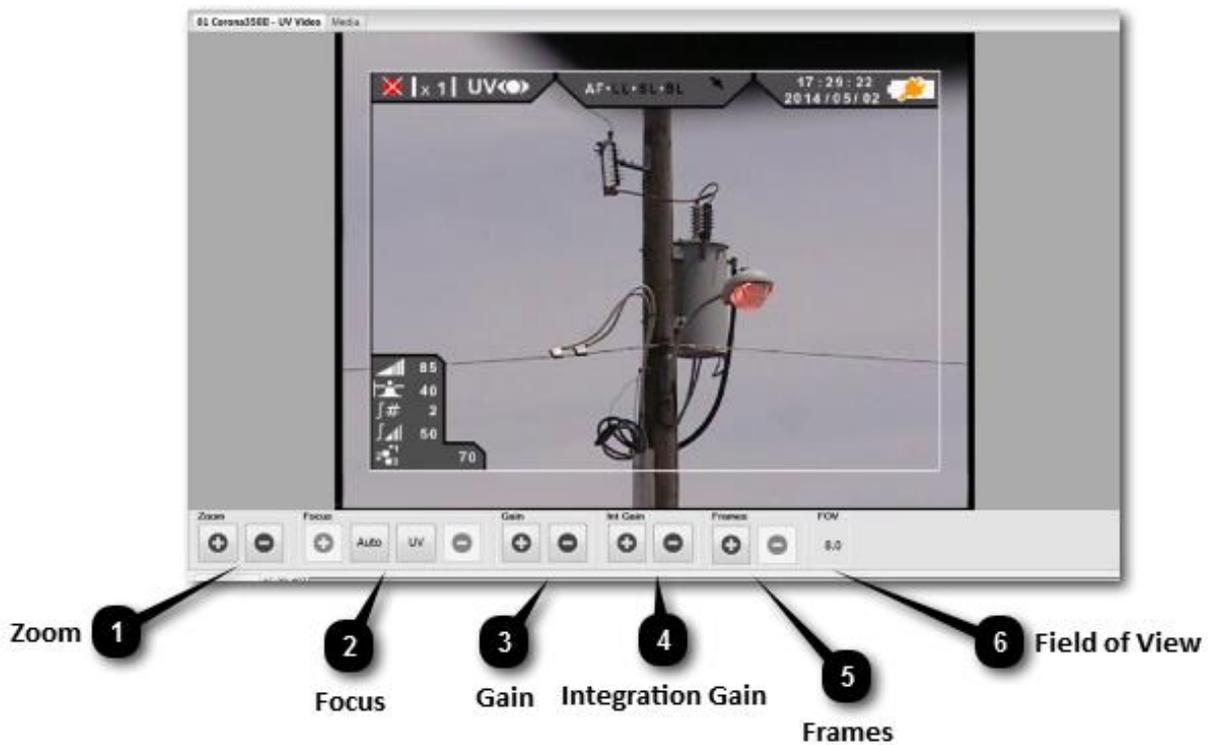

Figure 3 – UV Camera Controls in the View-in Main configuration
- Corona discharge video camera (Figure 3)